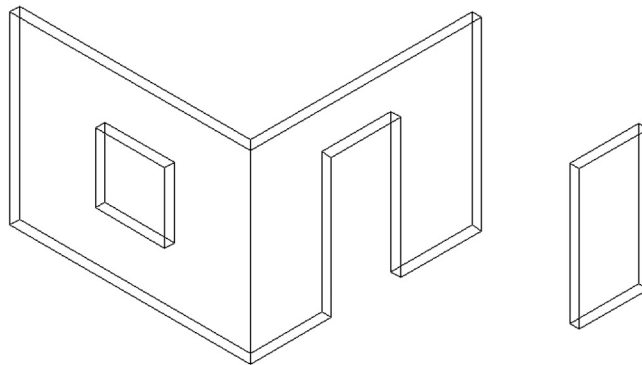
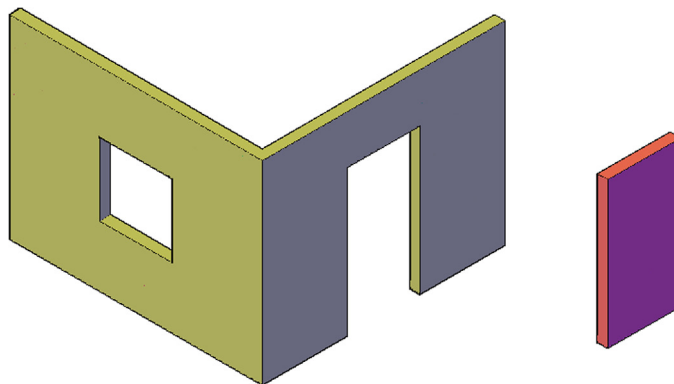

FIGURE 23.15
FIGURE 23.16
Step 6. Go ahead and subtract out the window and the door. Figure 23.15 shows what you see in wireframe mode. Figure 23.16 shows the same thing in shaded mode with color added.